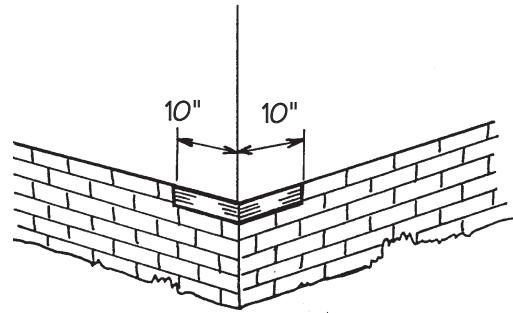

Figure 25.
- A water-resistant material should be used to flash the inside and outside corners a minimum of 10" on each side before installation of the corner posts (Fig. 25).